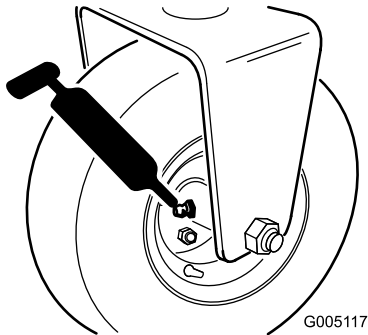

Figure 31
- Rear-roller-hub assembly or, if equipped with a 3-wheel-drive kit, rear-wheel-roller clutches and external ball bearing (1) (Figure 31)